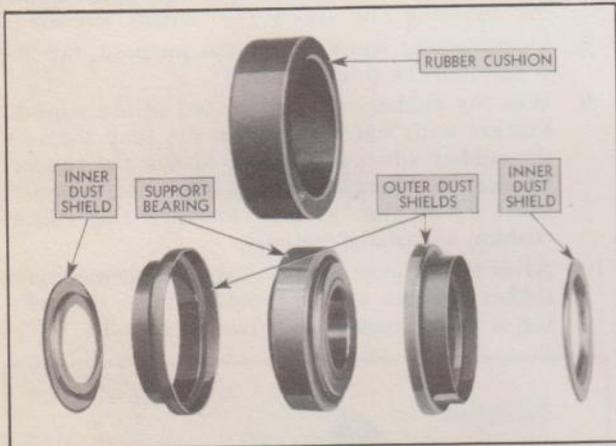

Fig. 35—Layout of Intermediate Support Bearing Parts
- Tap the dust shields off the outer race of the bearing. Fig. 35 shows a layout of the parts making up the intermediate support bearing assembly.
- Place one of the inner dust shields on the shaft with the offset in the shield away from the bearing as shown in Fig. 35. Drive the bearing on the shaft using the universal joint yoke as a driver. Then install the other inner dust shield on the shaft with the offset away from the bearing.